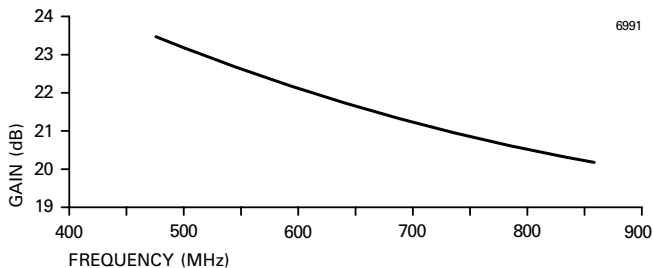

Fig. 1. IOTD270E typical gain characteristic
1. The gain of the IOT is a frequency dependent function and follows the trend shown in Fig. 1 below. A double slug tuner is provided with the IOT input cavity to allow the drive power to be matched into the IOT assembly.